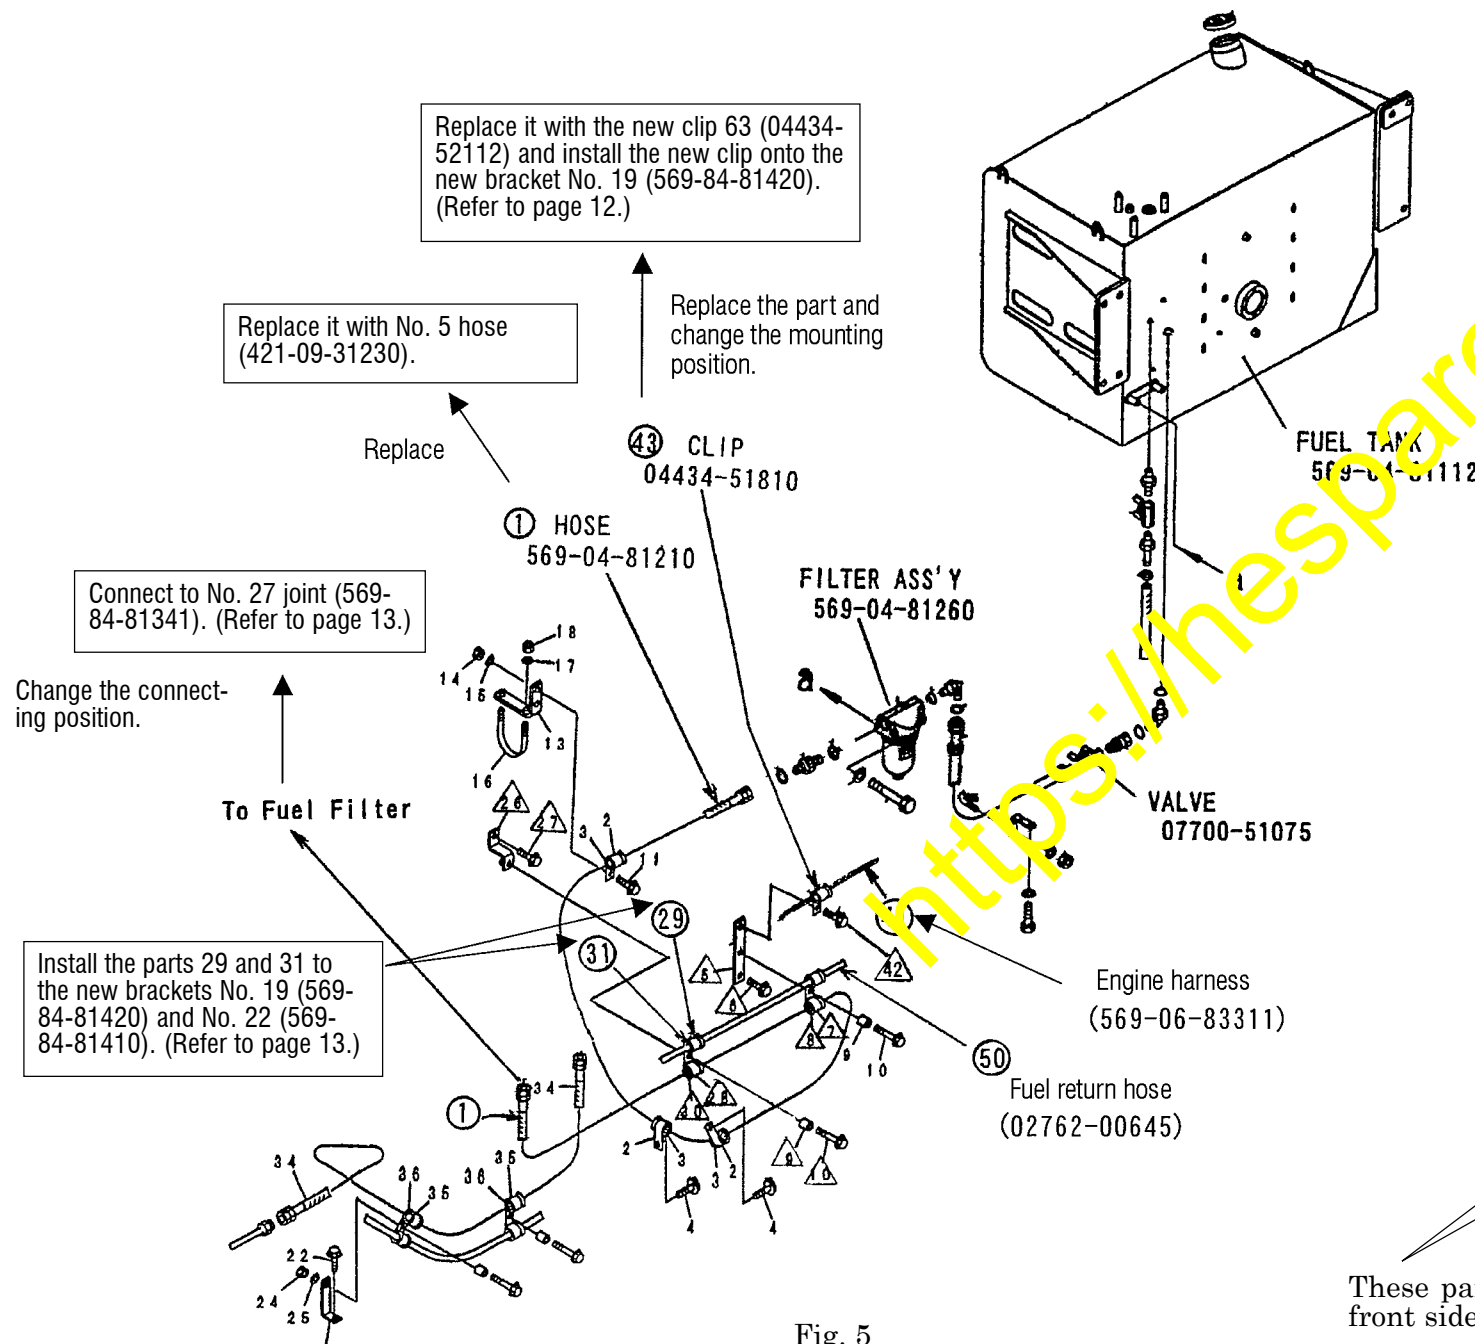

Fig. 5
- (6) Replace the fuel suction hose (Refer to Fig. 5.)
Refer to Fig. 5 for details.
- (4) Connect the hose No. 5 (421-09-31230) which has been installed as per the instructions given in Fig. 5 to the joint No. 27 (569-84-81341).
- (5) Connect the elbow No. 31 (6240-71-6740) installed to the above joint No. 27 (569-84-81341) and the additional fuel filter by the hose No. 34 (569-04-81220). Be careful not to let this hose interfere with the engine or with the frame, etc.
- (6) Connect the above joint No. 27 (569-84-81341) and the fuel filter by the hose No. 34 (569-04-81220). Be careful not to let this hose interfere with the engine or with the frame, etc.
- (7) Connect the front side elbow No. 43 (6240-71-6740) installed to the bracket No. 9 (6240-71-6112) for the additional fuel filter and the elbow No. 47 (6240-71-6740) at the suction port of the fuel injection pump by the hose No. 46 (424-09-31110). Be careful not to let this hose interfere with the engine or with the frame, etc.
- (10) The current front side clip 29 (04434-53412) and the cushion 31 (07095-20627) for the fuel return hose which have been removed as per the instructions given in Fig. 5 are being reused and install them to the bracket No. 22 (569-84-81410) using the new spacer No. 61 (421-06-12780) and the bolt No. 62 (01434-01045).
- (11) The current rear side clip 29 (04434-53412) and the cushion 31 (07095-20627) for the fuel return hose which have been removed as per the instructions given in Fig. 5 are being reused but replace the clip 43 (04434-51810) for the engine harness with the new clip No. 63 (04434-52112) and install it to the bracket No. 19 (569-84-81420) using the current collar 9 (428-64-15110) and bolt 10 (01434-01240).
- (12) Install the fuel filter cover No. 56 (569-84-81360) to the bracket No. 15 (569-84-81350).
The part which has been installed as per the instructions given in Fig. 5